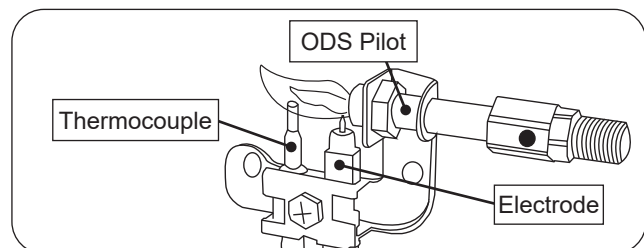

Fig. 24-2 ODS Pilot assembly detail
**Wait five (5) minutes to clear out any gas. Then smell for gas, including near the floor. If you smell gas, STOP! Follow "B" in the safety information above. If you do not smell gas, go to the next step.**
3. Locate the pilot assembly on the burner system (see Fig. 24-2).